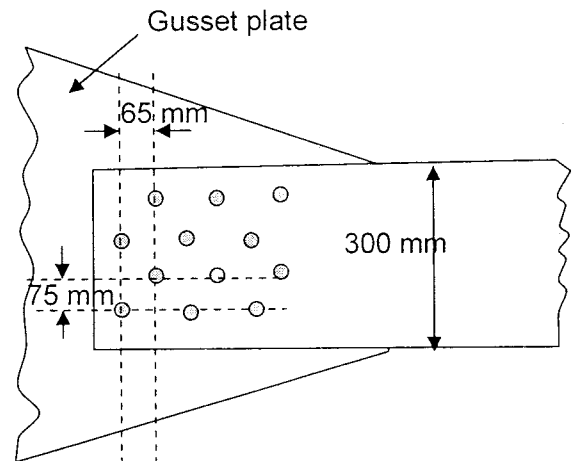

Fig. 5a) Chain riveting
6. A 300 I.S.F 8 mm is used as a tension member in a lattice girder. It is connected to a 12 mm gusset plate by 18 mm  $\phi$  hand-driven rivets. The yield stress of steel is  $250 \text{ N/mm}^2$ . Calculate the maximum force that the member can carry, if (40)
- Chain riveting is done as shown in Fig. 5a